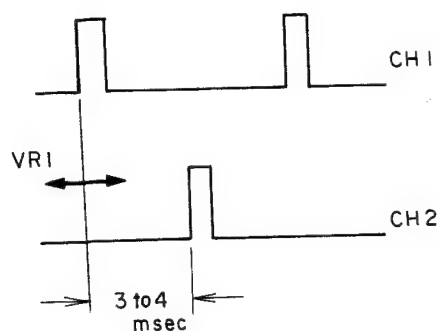

Fig. 25
- e) Adjust VR1 (20 k Ω) until as in Fig. 25.
- 1) Connect an oscilloscope to ① and ② of connector (J1).